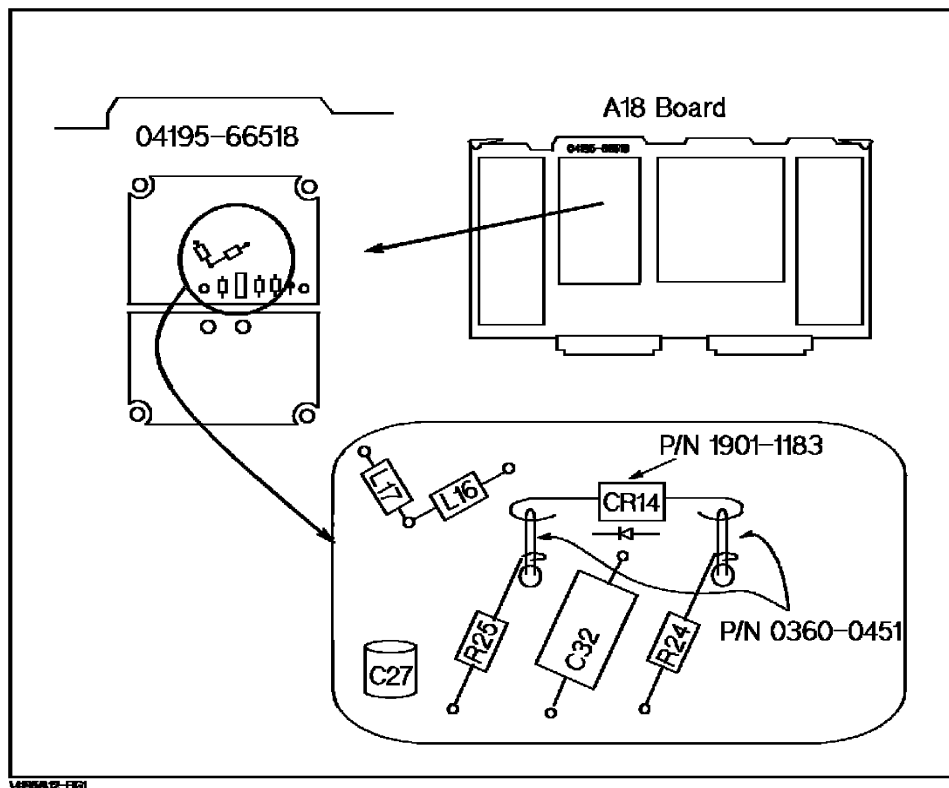

Figure 1. A18 Board Modification
3. Remove one lead each of A18R24 and A18R25. See Figure 1.